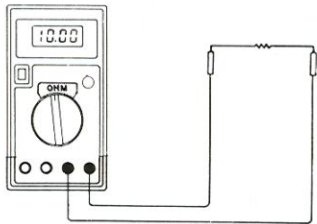

Fig. 5-5 Resistance measurement
2. Set the FUNCTION switch to the  $\Omega$  range to be used and connect the test leads across the resistance under measurement see Fig. 5-5.